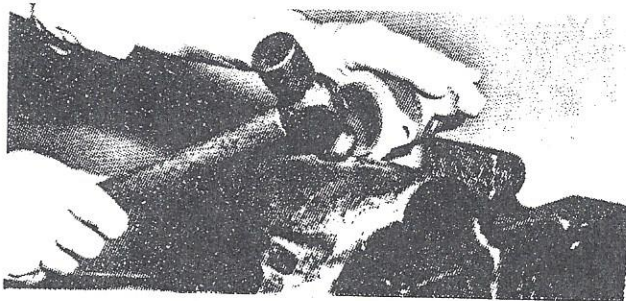

FIGURE 2
- D. Roll or flare the edges as shown in Fig. 2; a long rod tapered to a $\frac{1}{4}$ " dia. with the corners